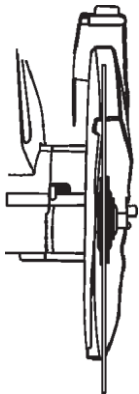

Fig 10
2. Lift the wheel guard fully upward until it exposes the arbor cap screw. (Fig 10)